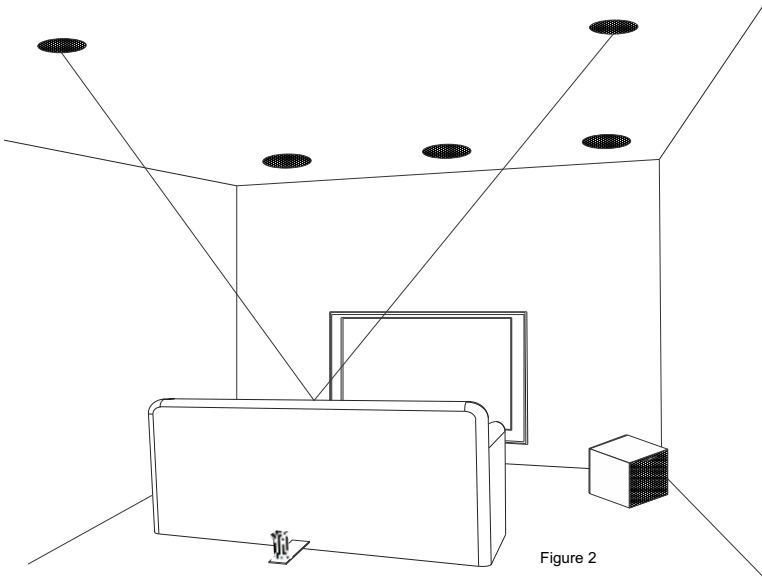

Figure 2
3. Aim tweeter towards the listener's ear when in listening position, as illustrated in Figure 2.